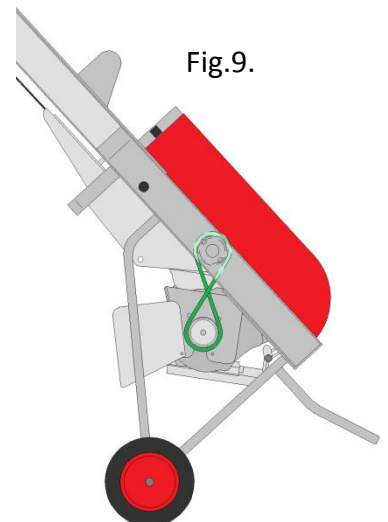

Fig.9.
11. To reverse machine fit engine as per step 8. Release black vee belts and place on hangar (top of red bonnet). Unhook green belt and place on n/s machine pulley. Cross belt in figure of 8, lift engine and position on n/s engine pulley. (Fig. 9) Lower engine to hang on belt. Close pulley cover. **Do not use belt tensioner when using machine in reverse.**